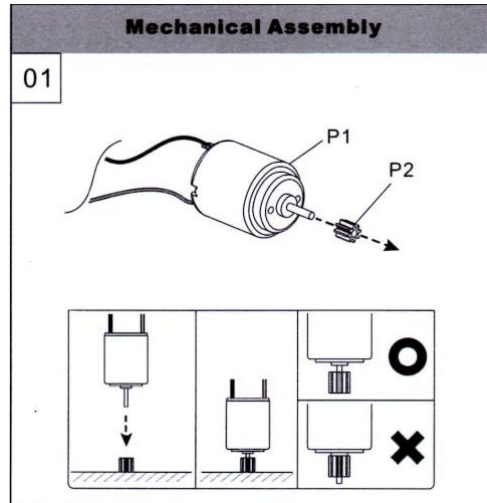

Fig. 4
1. Attach the Pinion Gear to the metal bar on the Motor. Do so by setting the pinion gear down on a flat surface and then putting the metal bar inside. Make sure that the end of the pinion gear is flush with the end of the metal bar. See **Fig. 4**